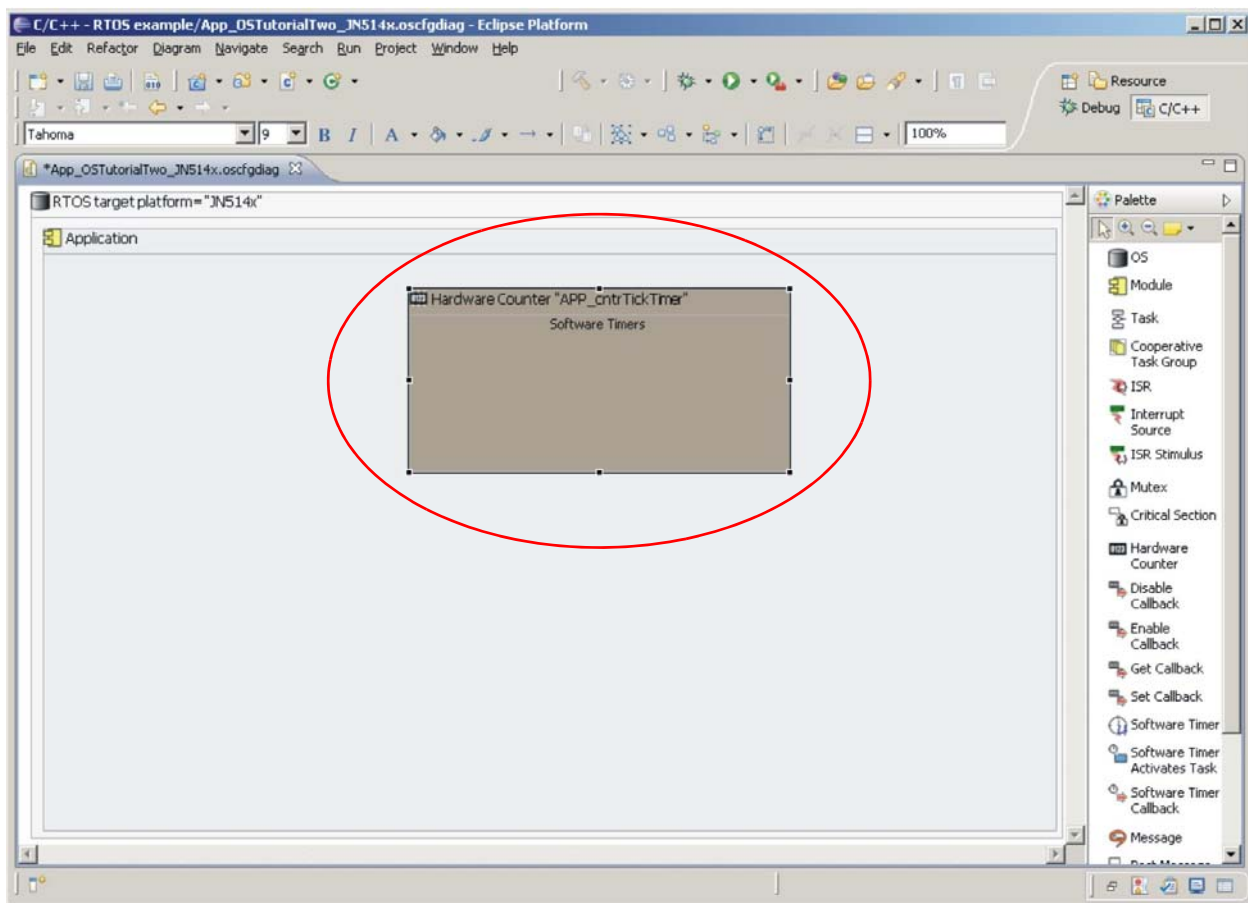

Figure 18: 'Hardware Counter' Element
- Step 2** Add a hardware counter to the diagram as shown in Figure 18 below and name it **APP_cntrTickTimer**.